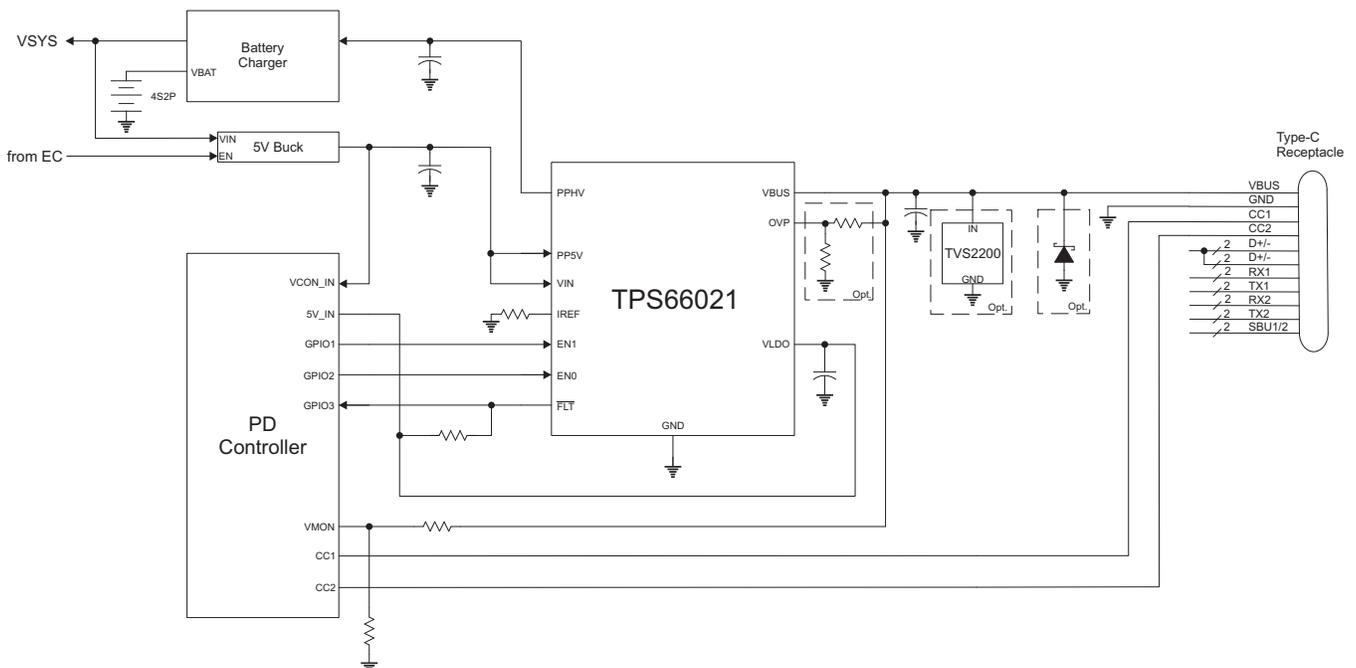
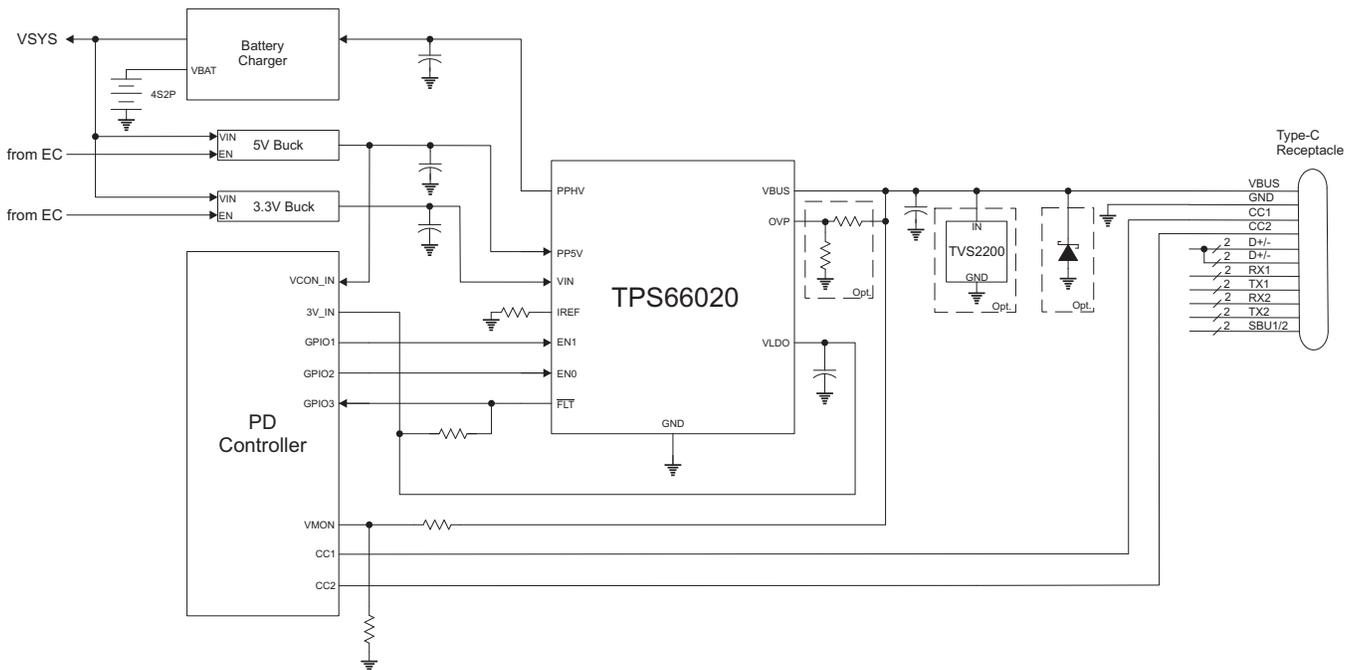

Figure 28. Single Port Type-C PD Port Using a Single 5-V Supply
Figure 29. Single Port Type-C PD Port Using a 3.3-V Supply
Figure 28 shows a USB Type-C single port design using a Power Delivery (PD) controller that supports 5-V operation. For this system, a single 5-V supply is used to supply power to the PP5V and VIN supplies of the TPS66021, as well as, the connector power, VCONN. The TPS66021 supplies power to the 5-V supply of the PD controller via its VLDO output which is sourced either from the integrated 5-V VBUS LDO for dead battery operation or from VIN once the dead battery condition ends.
Similarly, Figure 29 shows a USB Type-C single port design using a PD controller that only supports 3.3-V operation. In this case, a separate 3.3-V supply in the system is used to supply power to the TPS66020. The TPS66020 supplies power to the 3.3-V supply of the PD controller via its VLDO output which is sourced either from the integrated 3.3-V VBUS LDO for dead battery operation or from VIN once the dead battery condition ends.
The PPHV power path is a Sink. The capacitance on the PPHV shown in Figure 29 represents capacitance of the charger sub-system. In a typical application, this capacitance can be in the range of 47 μF up to 100 μF , far exceeding the 1- μF minimum specification for the TPS6602x, so no external capacitance is required to meet this requirement in most cases. As per the PD Specification, the total capacitance on VBUS should be maximum 10 μF at connection.
The TPS6602x integrates a high-voltage VBUS LDO that can be used to supply power to a PD Controller and other supporting circuitry when only VBUS power is available, such as in a dead battery condition. As shown in Figure 29, the TPS66020 VLDO output supplies power to the PD Controller's 3V_IN supply. Similarly, Figure 28 shows the TPS66021 VLDO output supplies power to the PD Controller's 5V_IN supply. During a dead battery condition, the PD Controller presents its Type-C RPD pull-downs on the CC1 and CC2 lines. Upon connection to a Type-C/PD Source, 5 V is provided to VBUS from the Source partner which powers the TPS6602x. The VBUS LDO is enabled and provides power to the PD Controller. Once powered, the PD Controller can decide to enable the TPS6602x PPHV Sink path by asserting EN0 high and use the 5-V VBUS to charge the battery or it may choose to negotiate a higher voltage contract first. Either way, once the contract is negotiated, the PD Controller will enable the PPHV Sink path and charge the system. Once the system is sufficiently charged, the VIN terminal will rise and will exceed the VIN UVLO threshold. If VIN remains above the UVLO threshold for t_{VIN_STABLE} , VLDO will be supplied from VIN and the VBUS LDO will be disabled.